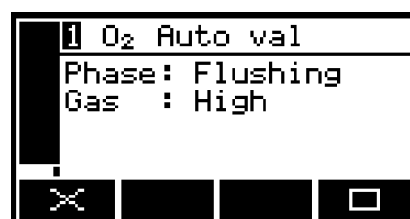

Figure 78 – The auto val/cal status screen (flushing phase)
- The calibration screen, if displayed, (pre-warning and inerting phase off) will be updated to show the current phase and the gas being used, as shown in Figure 78 to Figure 80.
To stop an automatic validation/calibration which is in progress, close the stop auto val switch input on the appropriate interface connection (see Section 5.2.5) or use modbus command see Appendix A3. Alternatively, whenever an automatic validation/calibration is in progress and the  (stop) icon is shown on the auto val/cal status screen (see Figure 78 and Figure 79), you can press the  soft button to manually stop the automatic validation/calibration.